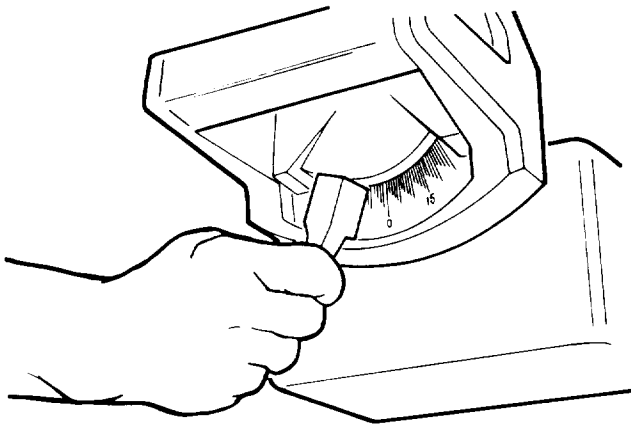

Fig. 131- Bevel Lock - Locked
2. Position the motor at approximately 30° bevel angle and lock *bevel lock*. (Figure 131)